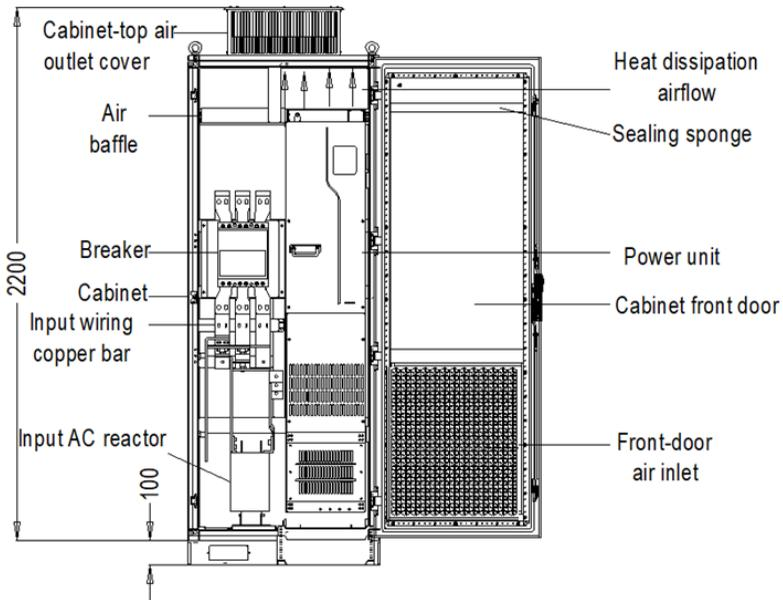

Figure 4-10 Recommended cabinet layout
- ✧ For in-cabinet mounting, see the cabinet layout diagram Figure 4-10. The cabinet frame is  $2200 \times 800 \times 600$  (unit: mm, including the H200 cabinet ventilation top cover). To secure the in-cabinet mounting, you must mount the H100 cabinet base. The air baffle must be mounted at the top of cabinet to prevent the hot air in the VFD outlet from circulating within the cabinet. A 40X40 sealing sponge must be used at the position corresponding to the air baffle in the front door panel, which prevents air duct short circuit. In addition, air inlet vents must be made at the lower of the cabinet door.